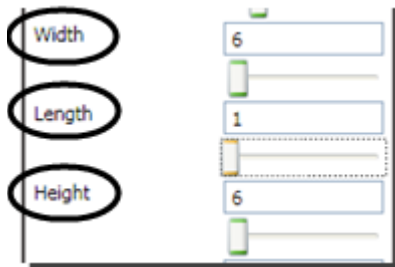
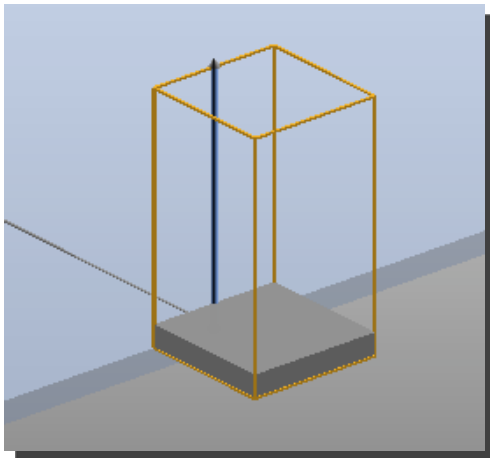

Figure 192
Figure 193
4. Now use the **Width**, **Length**, and **Height** sliders to make the winch look like a lift platform (Figure 192 and Figure 193).